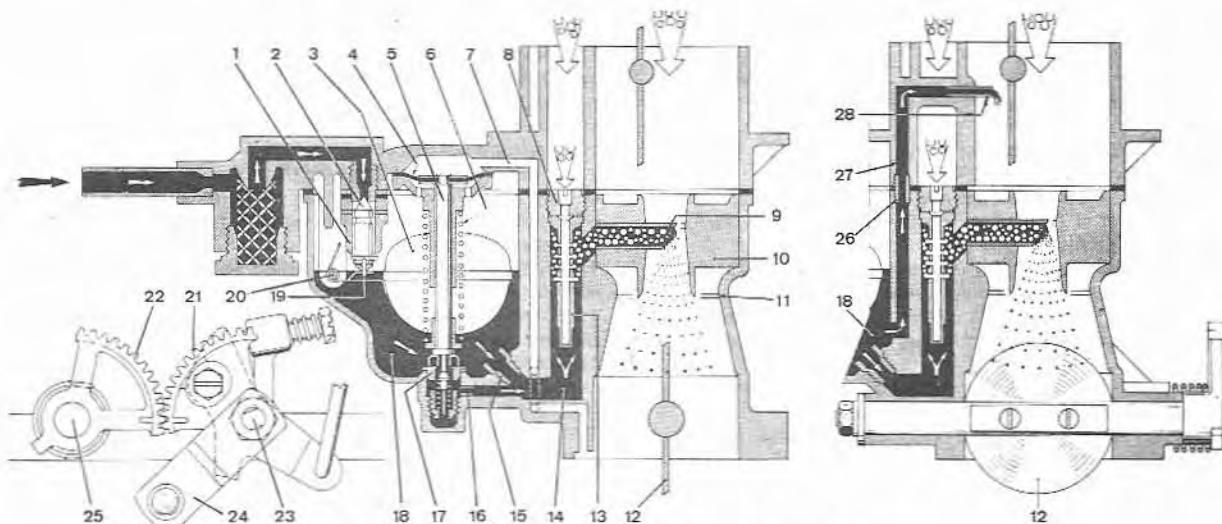

Fig. 9.6 Carburetor normal phase (DGAS types) (Sec 3)
DGAS type carburettors are also equipped with a full power valve which operates immediately the throttle valves are opened quickly. Refer to Fig. 9.6 and note that under these conditions the vacuum through the channel (7) is insufficient to draw the diaphragm (4) against the spring (6). The operating rod (5) therefore opens the full power valve (17). The fuel level in the emulsion tube wells (14) immediately rises and the mixture drawn from the nozzle (9) is enriched. When the throttle valves (12) are partially open, the vacuum through the channel (7) overcomes the tension of the spring (6) and the full power valve shuts.